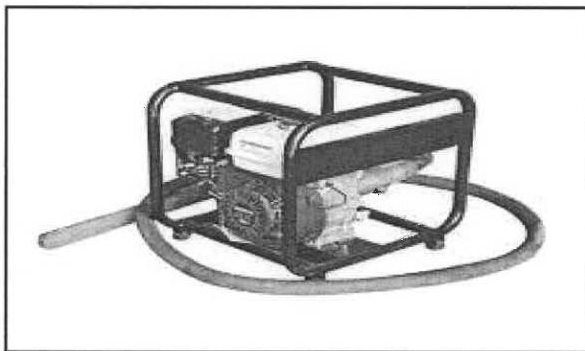

FIGURE 4.5
4.5 FIGURE 4.5 below shows a machine that is used on a construction site.